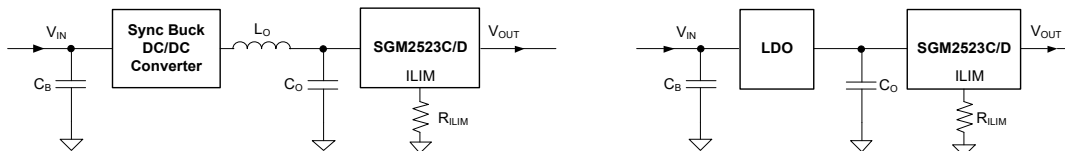

Figure 11. Precision Current Limit and Protection of Internal Rails
The safe operation of electrical and electronic equipment in dangerous area environment has a more and more urgent requirements for intensive safety (IS). IS requires that the total energy available during equipment operation is not enough to ignite the surrounding explosive environment by means of electric sparks or heat transfer. This requires precision current limits to ensure that the set current limits are not exceeded over a wide operating temperature range and variable environmental conditions. Applications such as gas analyzers, medical devices, portal industrial equipment, etc., need to meet these importance safety standards. As a simple over-voltage and over-load protection solution, SGM2523C/D are applicable to each power rail inside the system application. The typical implementation circuit of SGM2523C/D is shown in Figure 11.